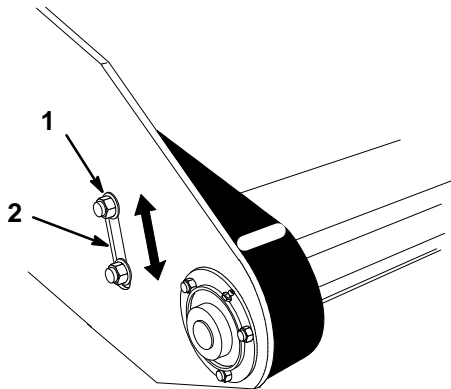

Figure 28
2. To adjust, loosen the bolt that secures idler sprocket to left side housing. (Fig. 28).
3. Slide idler sprocket in adjustment slot until chain is snug, but not tight (Fig. 28).